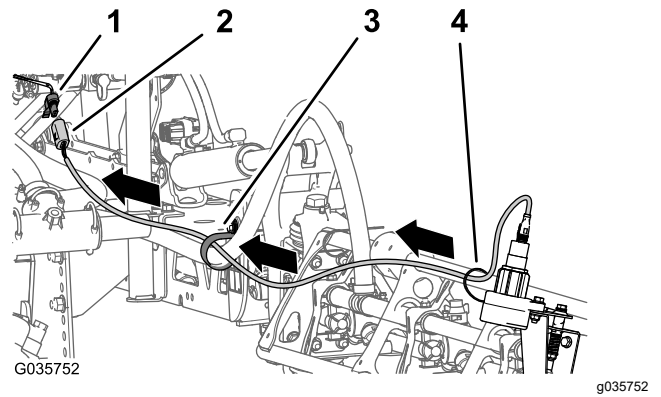

Figure 24
kit—forward of the lift-cylinder manifold (Figure 24).
3. Connect the 4-pin connectors for the left and right sensor-wire harnesses to the 4-socket connector of the wire harness for the ultra sonic boom finishing kit (Figure 24) labeled LEFT SONIC SENSOR and RIGHT SONIC SENSOR.
5. Secure the wire coming from the sensor to the boom with cable ties (Figure 24).